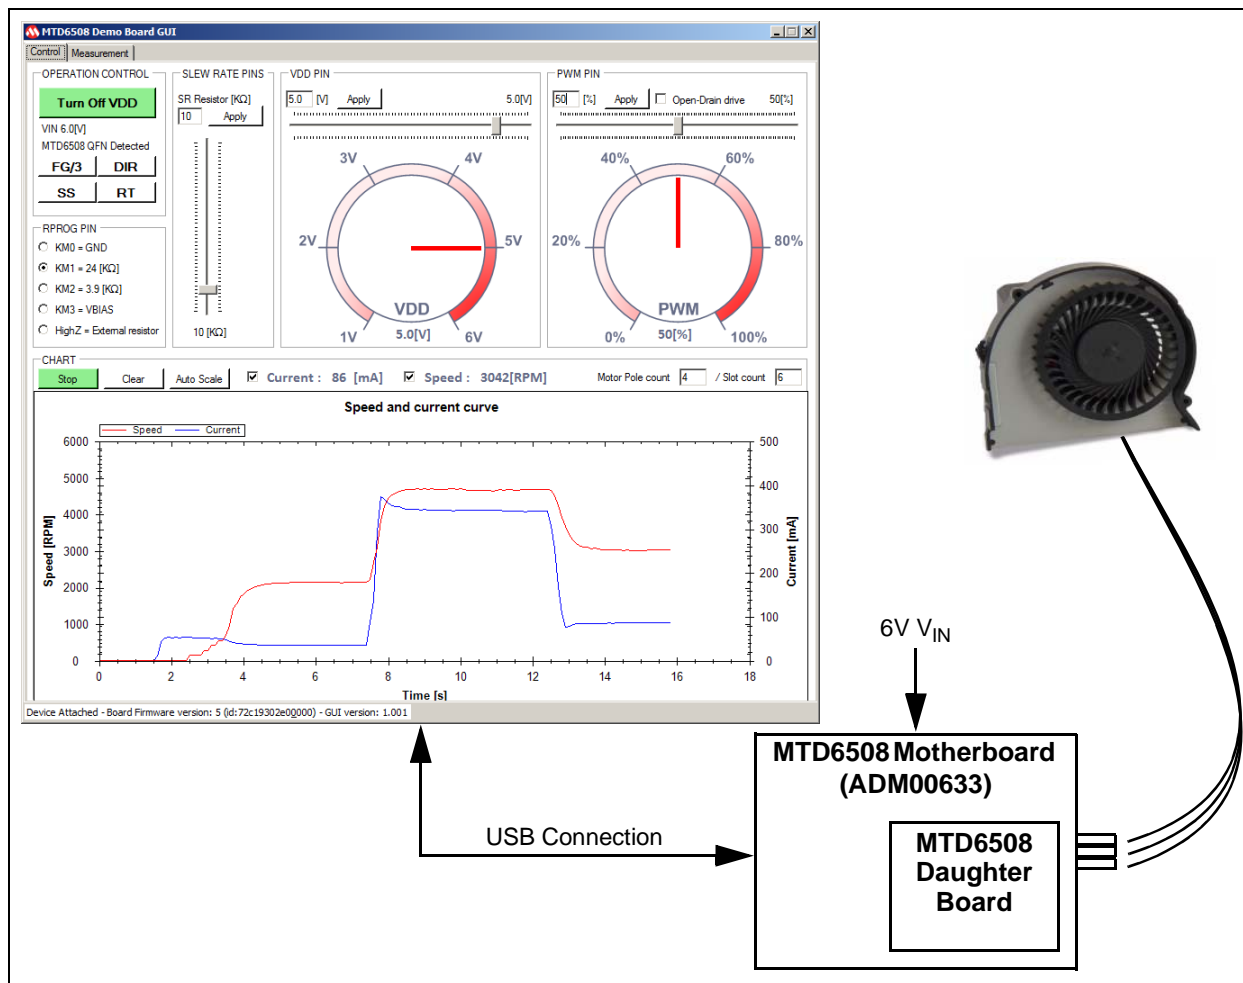

FIGURE 2-1: System Overview.
1. Connect a power supply between V_{DD} and a GND connector on the daughter board (see Figure 2-1). The device maximum voltage on V_{DD} is 5.5V. The power supply should support up to 800 mA continuous (device current limitation is 750 mA). Please note that it is possible that applications may not need that much current to run at full speed.
1. Plug the MTD6508 Daughter Board into its dedicated socket on the MTD6508 Demonstration Board (see Figure 2-1).